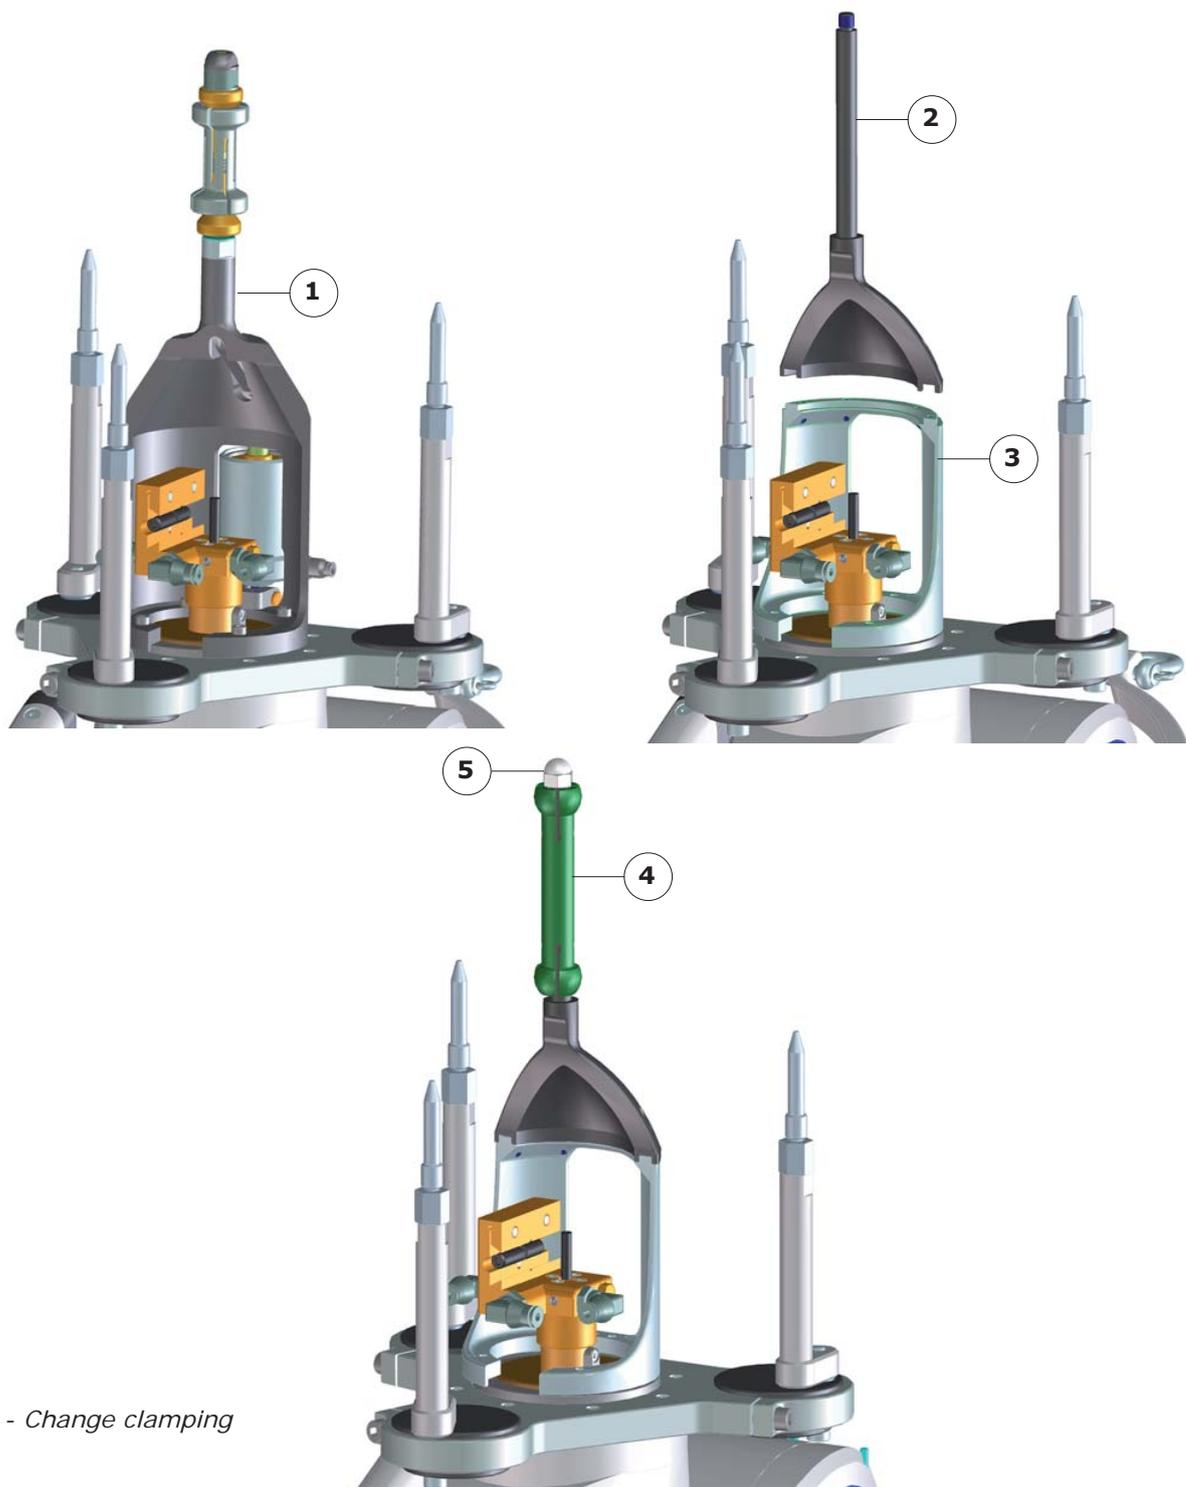

Fig.5.43 - Change clamping
- Disconnect the air supply of pneumatic clamping (Fig.5.43 - Rep.1) and place the cap on the port.
- Fitting the shielding box (Fig.5.43 - Rep.2) and Centre holder (Fig.5.43 - Rep.3).
- Fitting the centre (Fig.5.43 - Rep.4) to the shaft carrier.
- Tighten the nut (Fig.5.43 - Rep.5) without forgetting the washer.